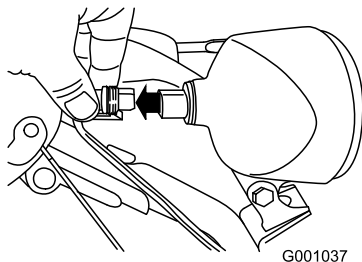

Figure 54
1. Remove the wire connector from the back of the headlight (Figure 54).